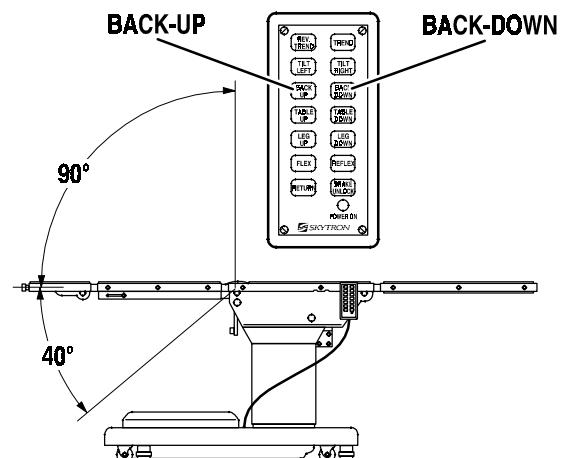

Figure 3-7. Back Section Positioning
**e. Back Section.** To raise the back section, press the BACK UP button (figure 3-7). The back section will raise up to 90° above horizontal. To lower the back section, press the BACK DOWN button. The back section will go down to 40° below horizontal.